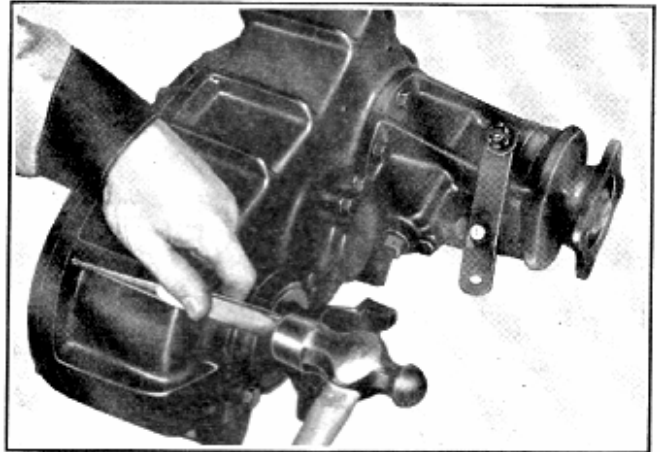

Fig. 2—Removing Cover Dowel Pins
5. Remove the cap screws holding the idler shaft rear bearing cap (12) and the driven shaft rear bearing cap (24). When removing these bearing caps note quantity and thickness of shims as explained above.
6. The rear cover (5) is held to the case by cap screws and two tapered dowel pins. The tapered dowels should be removed from the cover and case, using a punch as illustrated in Fig. 2. Remove the cap screws and lock-washers, using a  $\frac{1}{8}$ " wrench.